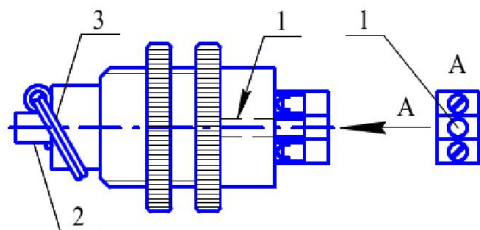
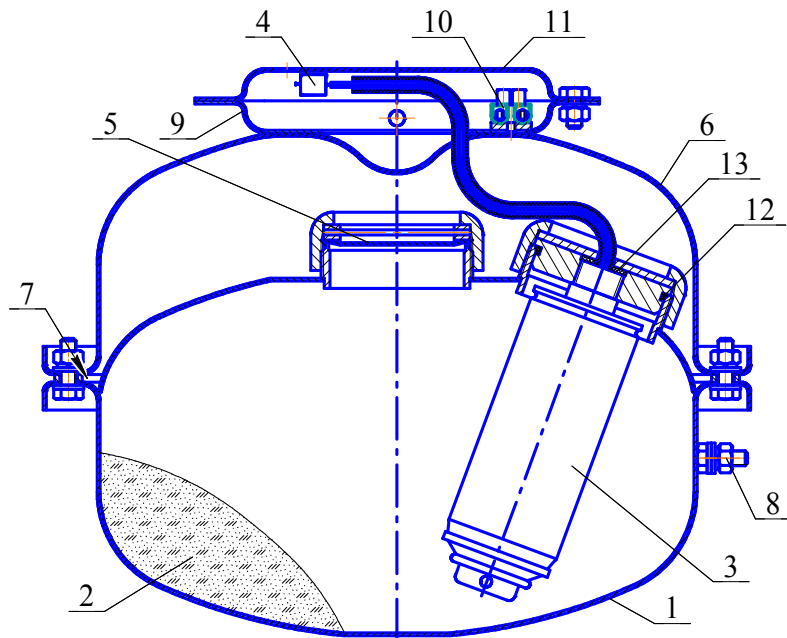
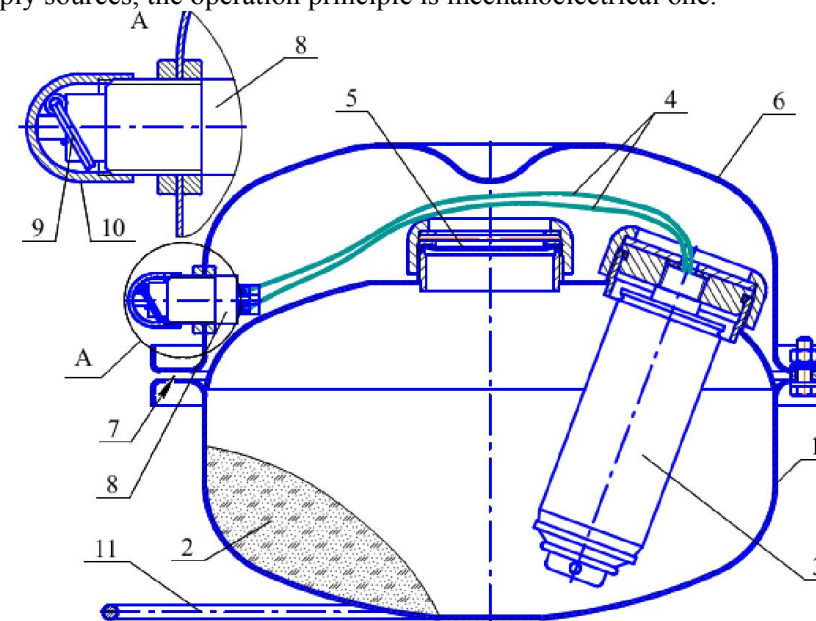
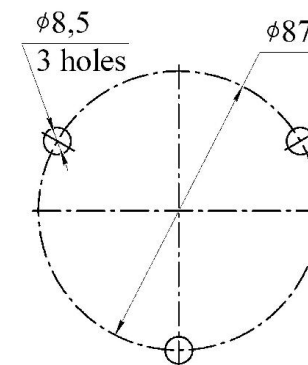

Figure 5
Figure 1
Figure 2
Figure 3
7.4 To restore a manual launching device after MPP operation it is necessary to lift rod **2** through hole **1** (see Figure 5) in device foundation and to fasten it with pin **3**. To lift rod **2** it is necessary to use edgeless stick 1.5...2 mm in diameter. Cover upper part of activation unit with plug **10** (see Figure 2) after restoration.
4.1.1 The MPP (See Figure 1) consists of a case **1** where fire extinguishing powder (OP) **2** and cold gas source (CGS) **3** with electric triggering element **4** are placed. The nozzle hole for OP ejecting from the case is closed by membrane **5**. From the nozzle hole side the case **1** is connected with a reflector
4.2.1 The MPP (See Figure 2) consists of a case 1 where fire extinguishing powder (OP) 2 and cold gas source (CGS) 3 with electric triggering element 4 are placed. The nozzle hole for OP ejecting from the case is closed by membrane 5. From the nozzle hole side the case 1 is connected with a reflector
7.1 Special technical maintenance is not required. Examine the integrity of MPP case by external examination once a quarter. In case of its crippling (dents, cracks, through holes), replace the module. Additionally for MPP(N)-5-I-GE-U2 and MPP(N-T)-5-I-GE-U2 the grounding availability is examined. For MPP(N-R)-5-I-GE-U2 the presence of plug 10 and pin 9 on manual launching device 8 according to Figure 2.
- CGS-5(M)-01 SIAV 066614.025.000 TU for MPP(N)-5-I-GE-U2; CGS-5(M)-02 SIAV 066614.025.000 TU for MPP(N-T)-5-I-GE-U2, or CGS-5(M)-06 SIAV 066614.025.000 TU for MPP(N-T1)-5-I-GE-U2 (see item 3 on Figure 1); CGS-5(M)-05 SIAV 066614.025.000 TU for MPP(N-R)-5-I-GE-U2 (see item 3 on Figure 2) – 1 item;
- rubber ring 020-026-36 GOST 9833-73 (see item 12 on Figures 1,2) – 1 item;
- fire-extinguishing powder ISTO-1 TU 2149-001-54572789-00 (see item 2 on Figures 1, 2) – 4.4 kg;
- membrane of SIAV 634233.006.003 drawing (see item 5 on Figures 1, 2) – 1 item.
4.3.1 After sending electric pulse to the outputs of the triggering unit 4, the CGS 3 (see Figures 1, 2) generates gas which fluffs OP 2 and creates pressure inside the MPP case to rupture membrane 5 and eject through nozzle-sprayer 7 the jet of OP into the burning area.
- MPP storage without plug **10** (see Figure 2);
6.1.2 Fasten the bracket **11** (see Figure 1) to the ceiling, to the wall, to the floor or to other bearing surface. Positions of holes in the bracket intended to fasten the MPP are given in Figures 3.
6.2.2 Take the MPP by the handle **11** (see Figure 2); remove plug **9** with a free hand from manual launching device **8** and extract pin **10**.